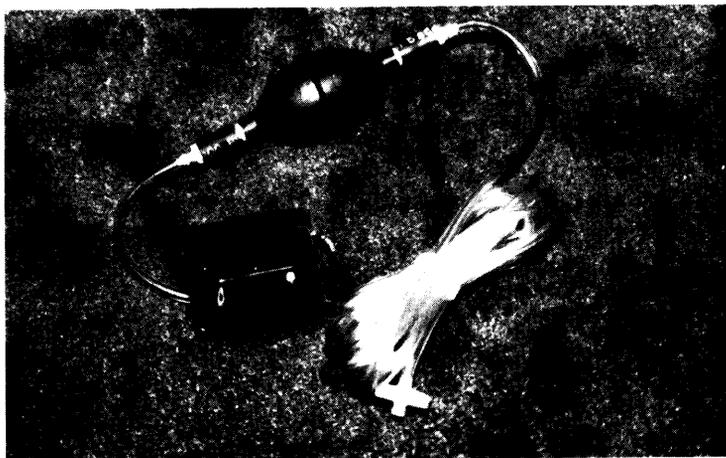

Fig. 2 - Hand Aspirator Assembly
- 5.02 Before entering the manhole, place the free end of the sampling hose in the manhole (cover removed); draw the atmosphere to be tested through the monitor until the highest oxygen and lowest LEL and CO reading is obtained. Make sure that the end of the sampling hose never touched water in the manhole. About eight squeezes of the bulb is sufficient. See Figure 2.